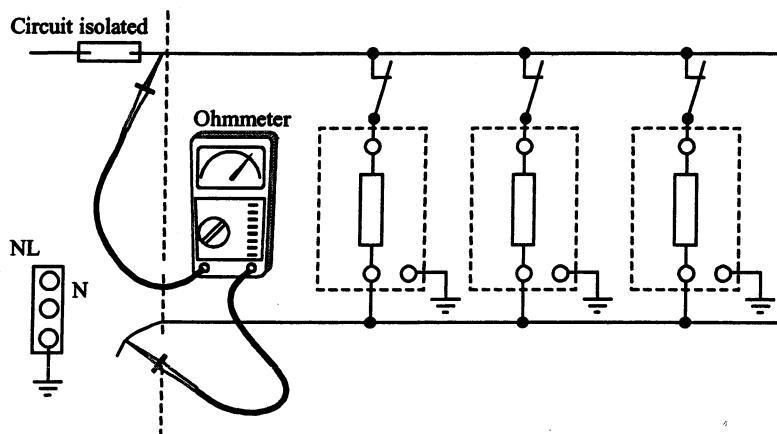

Figure 7.1 Short circuit testing
1. At the switchboard, test the resistance of each circuit between active and neutral conductor as shown in Figure 7.1.